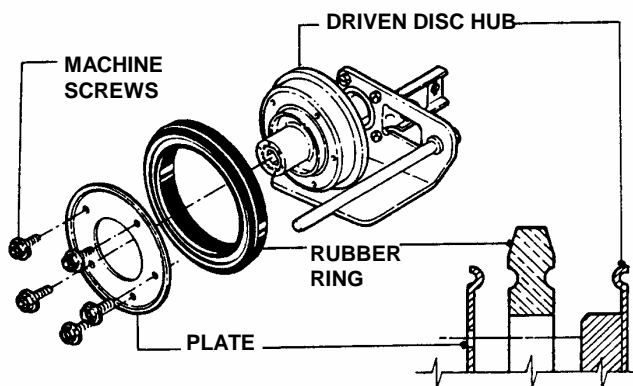

FIGURE 4.12
3. Remove the five machine screws and plate which secure the rubber ring to the driven disc hub. See Figure 4.12.